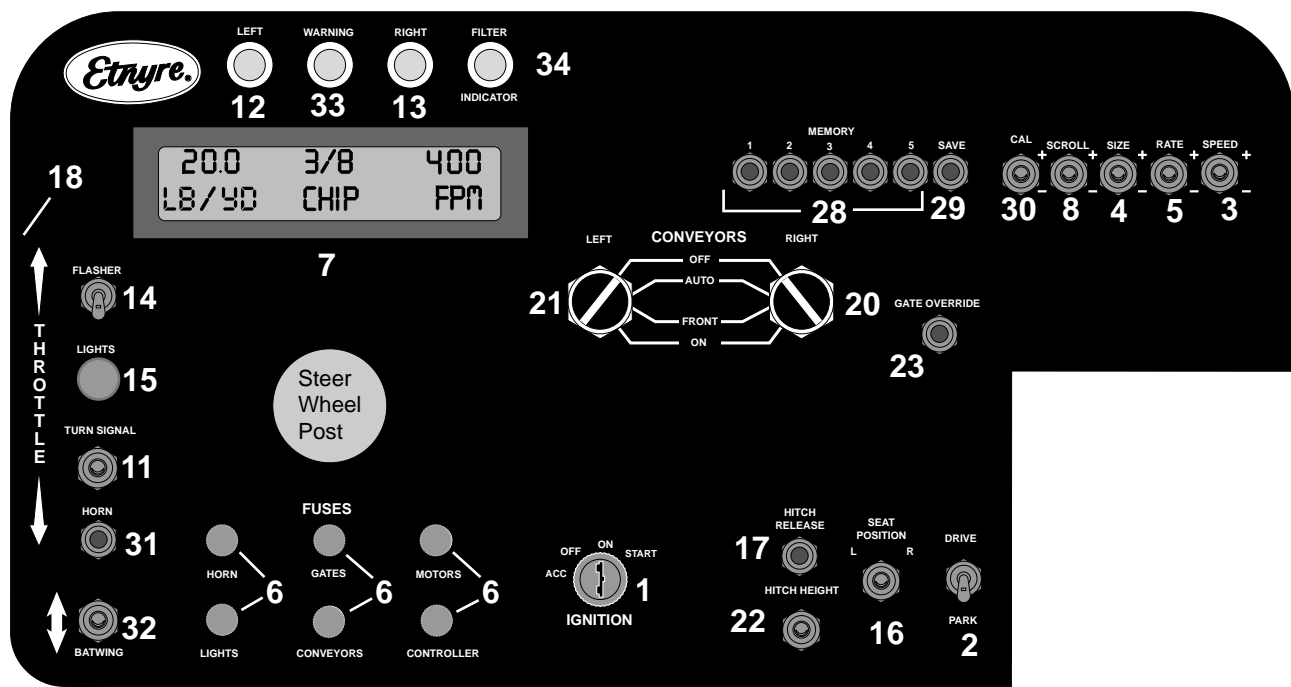

Figure 5 Control Console Identification
Refer to figure 5 for identification of described features.
10. Gate/Spread Roll Switch. (Figures 5 & 7)